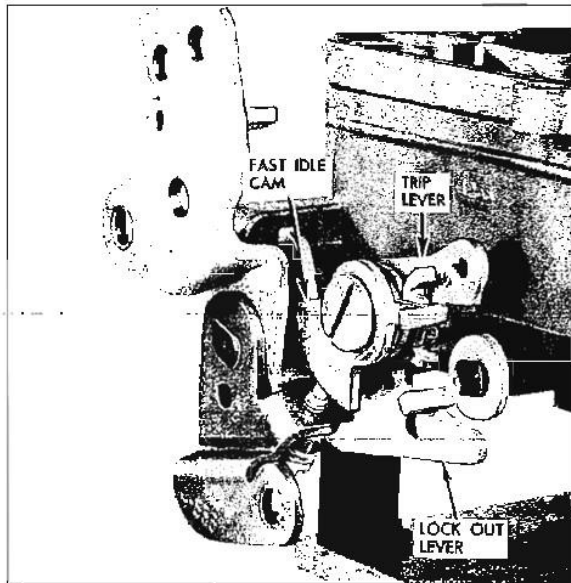

Fig. 6B-82 Location of Fast Idle Cam and Lockout Lever
20. Remove fast idle cam attaching screw, fast idle cam, trip lever and lockout lever (Fig. 6B-82).